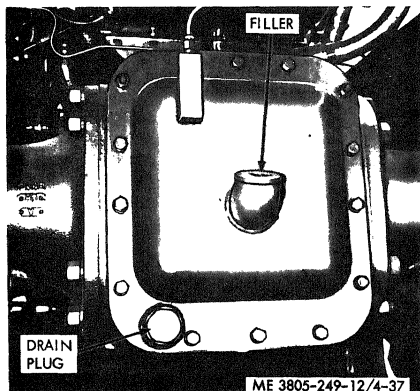

Figure 4-37. Axle housing.
b. Remove the drain plug (fig. 4-37) and allow the oil to drain. Clean and reinstall the drain plug.